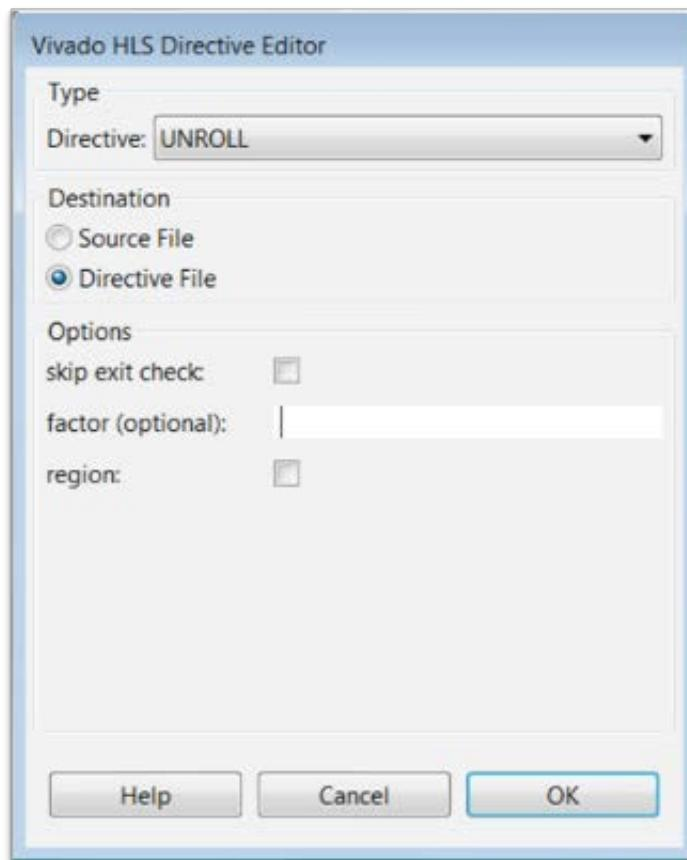

Figure 72 Directives Editor to Unroll For_Loop
- b. With the Directives Editor as shown in Figure 72, click OK.